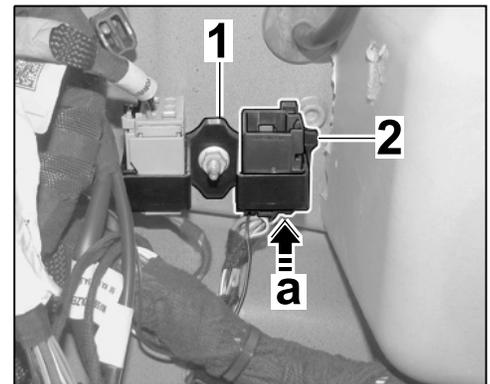

Figure 7
- 2.3.4 Fit pin connector socket ⇒ *Figure 7-1-* into the holder ⇒ *Figure 7-2-* (⇒ *Figure 7-a-*).